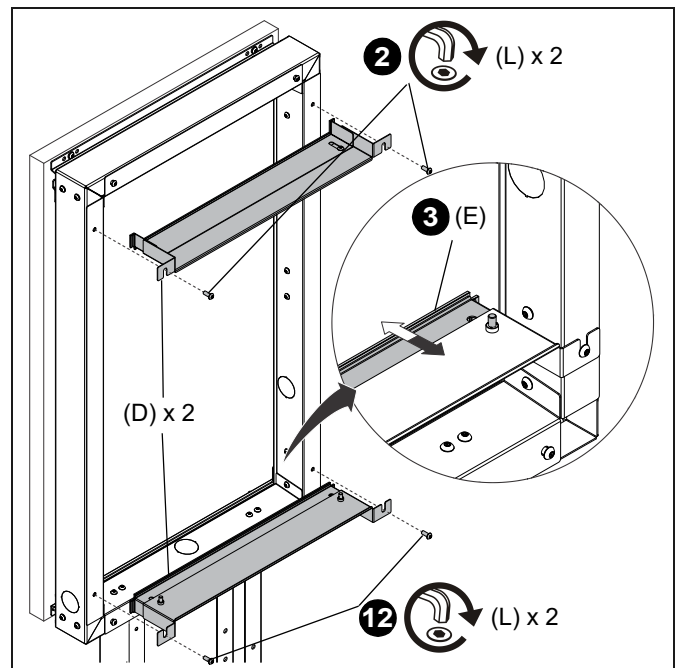

Figure 23
2. Loosen the four M8 x 20mm screws (L) securing the vertical covers (B) to the frame. Install two assembled large baffles (D) to the frame and re-tighten the four M8 x 20mm security screws (L). (See Figure 23)
3. Loosen the screws securing the baffle extensions (E) to the large baffles (D) and slide them towards the back of the display until the foam makes firm contact with the display. Re-tighten the screws. (See Figure 23)